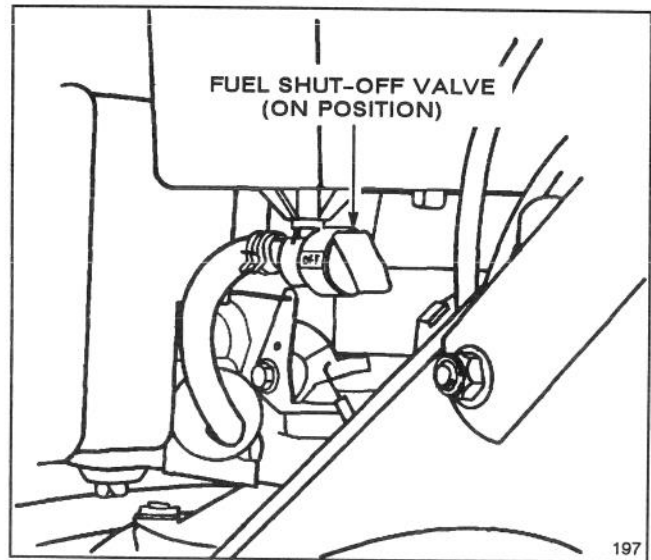

Figure 10
3. Turn fuel shut-off valve to ON position (Fig. 10).